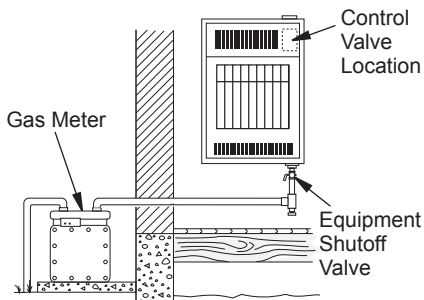

Figure 15 - Checking Gas Joints for Natural Gas
3. Check all joints from gas meter for natural or propane/LP supply to equipment shutoff valve (see Figure 15 or 16). Apply a noncorrosive leak detection fluid to all joints. Bubbles forming show a leak.
4. Check all joints from equipment shutoff valve to control valve (see Figures 15 or